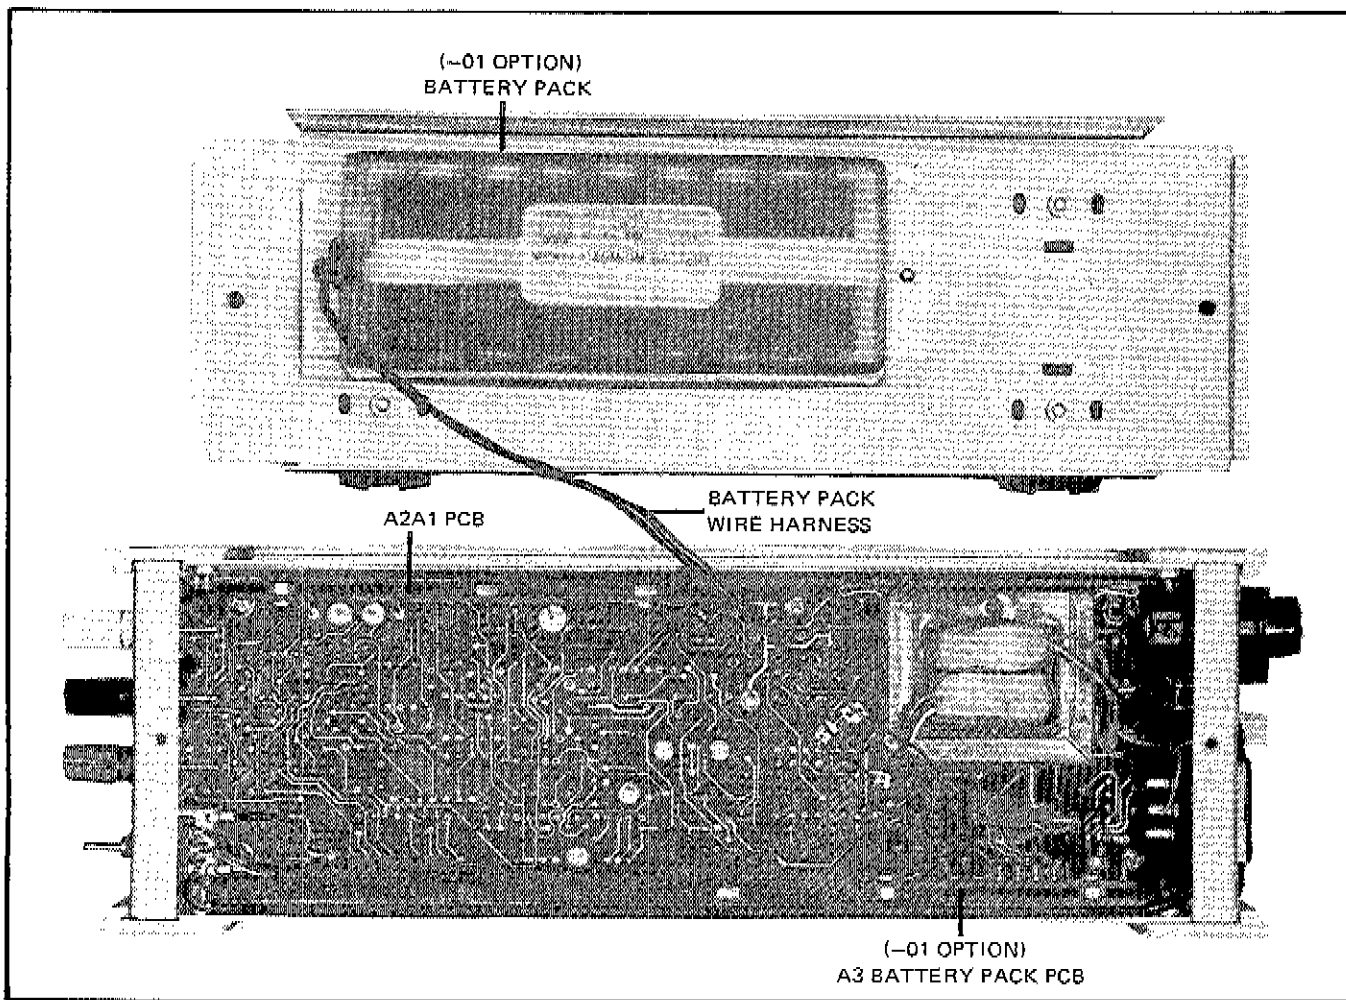

Figure 4-2. ASSEMBLY LOCATIONS (BOTTOM COVER REMOVED)
- b. Remove the bottom dust cover. Access is now provided to assemblies shown in Figure 4-2.
- a. Locate the assembly to be removed using Figure 4-2.
4-19. The batteries for the -01 Option are installed on the inside of the bottom dust cover as shown in Figure 4-2. If replacement is necessary, the entire Battery Pack, FLUKE PART NO. 284356, should be replaced. Proceed as follows:
- a. Disconnect the four wires labeled 1 through 4 from A3 Battery Pack PCB. Refer to Figure 4-2 for location.